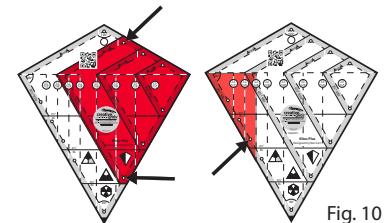

Fig. 10
1. Mark the seam allowances through the holes for each piece indicated. Fig. 10